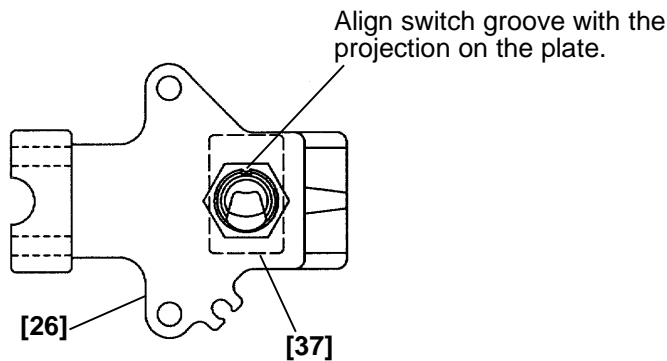
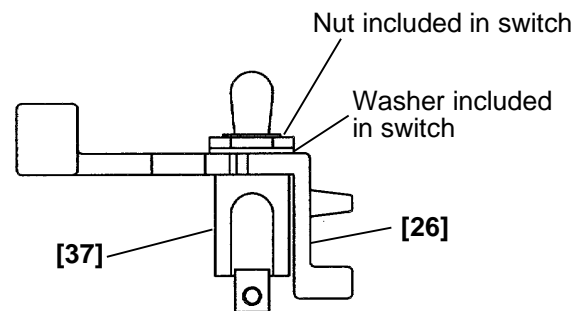

Fig. 9
Fig. 10
- (2) Take care not to use any Ball Bearings [1], [41] of the Armature [44] other than those specified, because the revolution of the armature may vary depending on the quality of these parts.
- (3) Orientation of the Switch [37] (Fig. 9, Fig. 10)